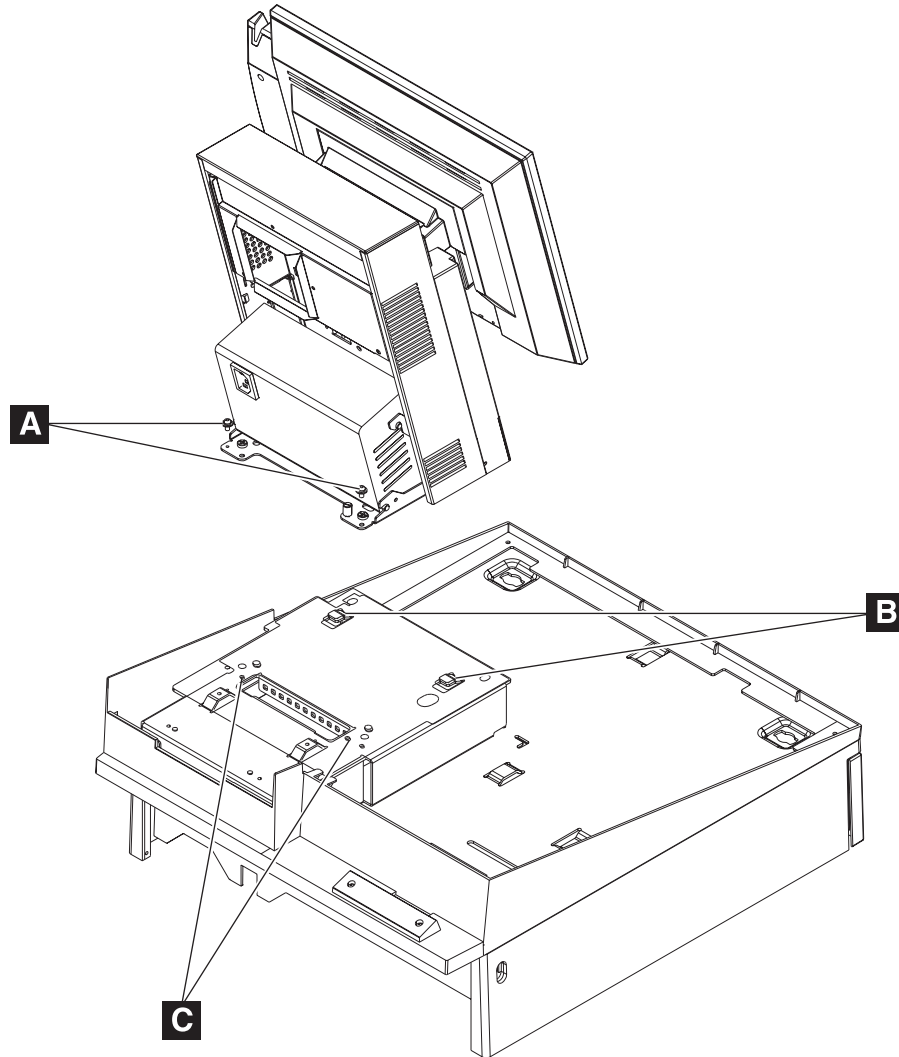

Figure 28. Installing the SurePOS 500 Model 514 onto the integration tray
11. Attach the SurePOS 500 Model 514 to the mounting plate as shown in Figure 28. Slide the unit from the back toward the front until the frame fits into the tabs **B**, and the screws **A** and mounting holes **C** are lined up. Tighten the two base-bracket screws.